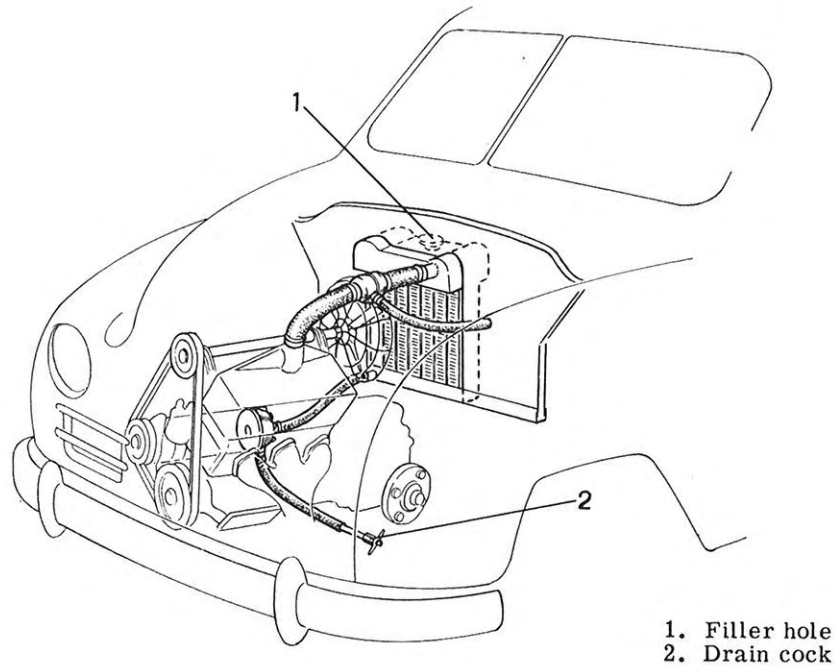

Fig. 1. Cooling system
The Saab 93 has a liquid-cooled engine, the cooling system consisting of the engine cooling jacket, radiator, pump, thermostat and hoses. The system also includes a belt-driven fan which forces air through the radiator. The layout of the system is shown in Fig. 1.
1. Drain off coolant. Location of drain cock is shown in Fig. 1.
1. Drain off coolant. Location of drain cock is shown in Fig. 1